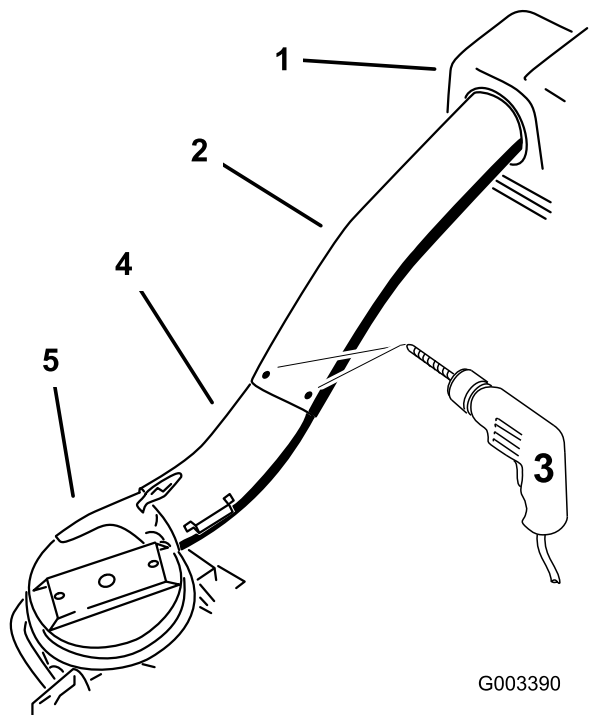

Figure 24
- Using the 3 holes or indentations in the upper tube as a template, drill 3 holes (7/32 inch diameter) where the upper and lower tubes join together (Figure 24).